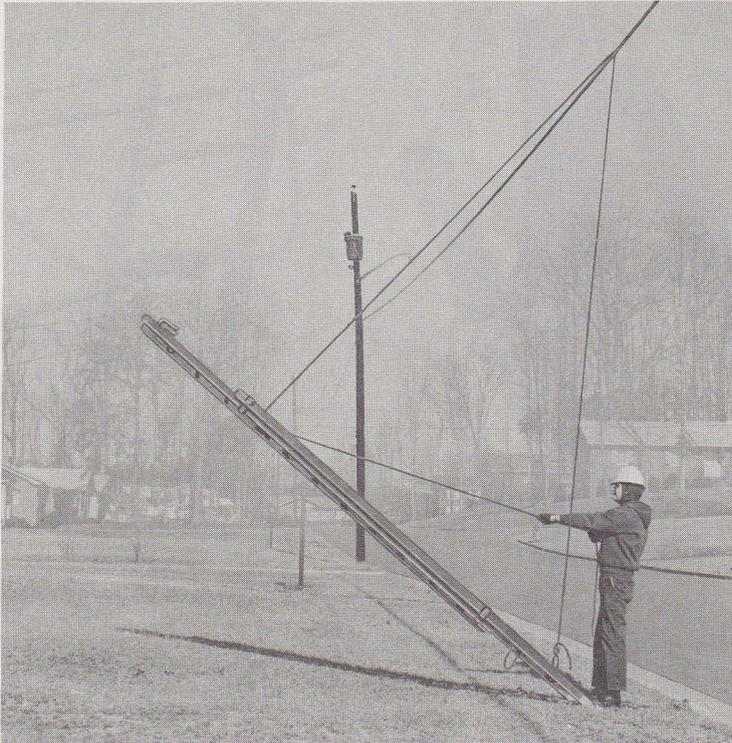

Fig. 9—Raising Extension Ladder, One Man Method
3.10 One man can raise a 24- or 28-foot extension ladder to a strand using the method shown in Fig. 9. Longer ladders may be raised using this method if two men are available. If there is a possibility of the handline becoming involved with tree branches, power wires, etc, place the handline over the strand with tree pruner handles, taking care to avoid contact with power wires. In doing this, exercise care to prevent the free end of the handline from interfering with passing vehicles.